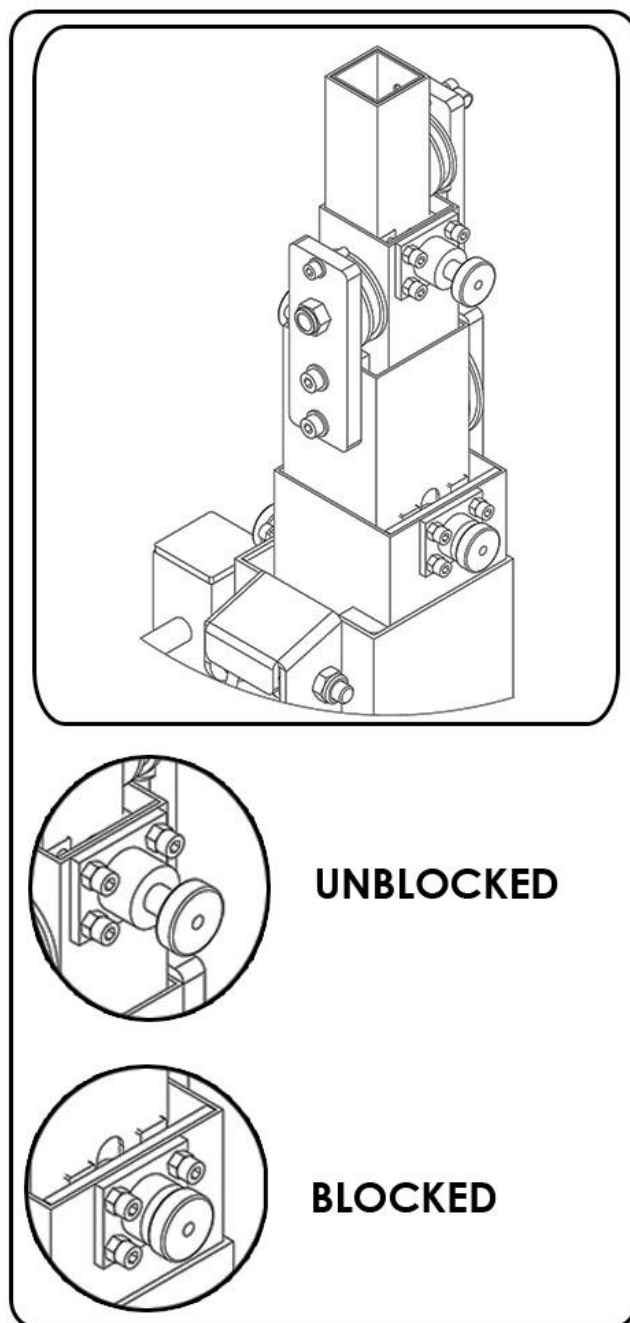

Figure 26
- See Figure 26 in this section to understand the security system function.